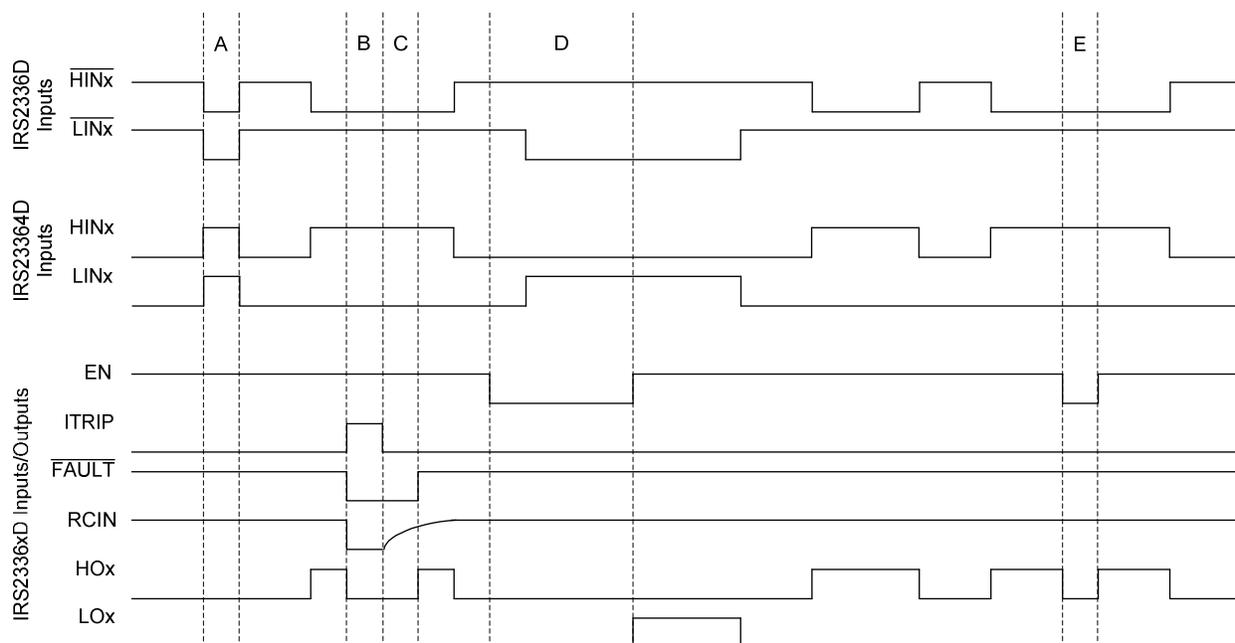
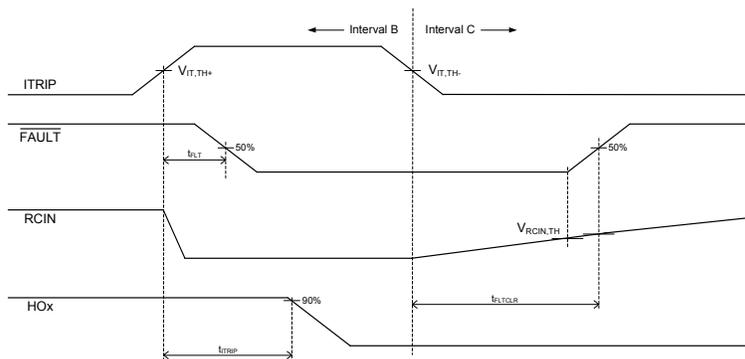

Figure 5: Input/output timing diagram for the IRS2336x(D) family
Figure 6: Detailed view of B & C intervals
During interval A of Figure 5, the HVIC has received the command to turn-on both the high- and low-side switches at the same time; as a result, the shoot-through protection of the HVIC has prevented this condition and both the high- and low-side output are held in the off state.
Interval B of Figures 5 and 6 shows that the signal on the ITRIP input pin has gone from a low to a high state; as a result, all of the gate drive outputs have been disabled (i.e., see that HOx has returned to the low state; LOx is also held low), the voltage on the RCIN pin has been pulled to 0 V, and a fault is reported by the FAULT output transitioning to the low state. Once the ITRIP input has returned to the low state, the output will remain disabled and the fault condition reported until the voltage on the RCIN pin charges up to $V_{RCIN,TH}$ (see interval C in Figure 6); the charging characteristics are dictated by the RC network attached to the RCIN pin.
During intervals D and E of Figure 5, we can see that the enable (EN) pin has been pulled low (as is the case when the driver IC has received a command from the control IC to shutdown); this results in the outputs (HOx and LOx) being held in the low state until the enable pin is pulled high.